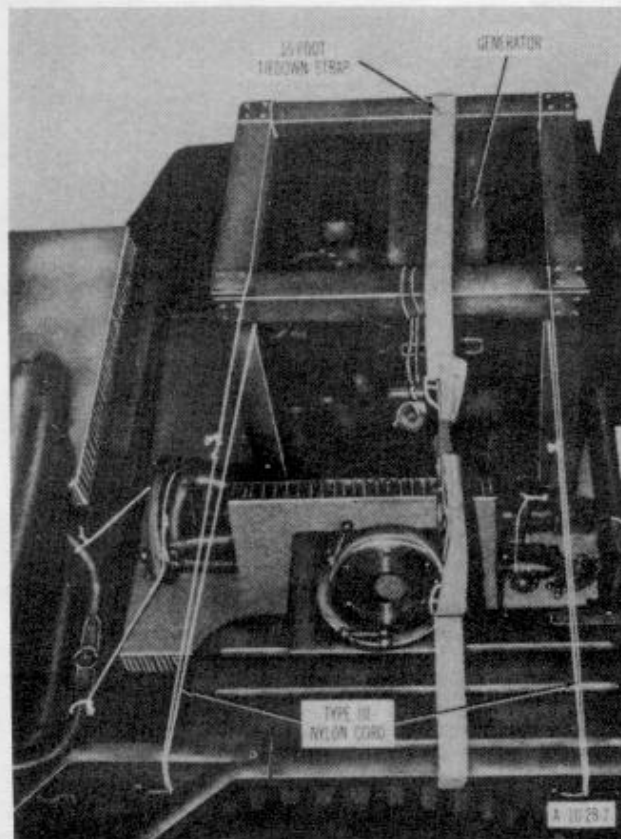

Figure 6-10. Generator stowed.
e. Stowing Generator. Center generator in rear of vehicle over the four layers of felt, and secure it with a 15-foot tiedown strap around vehicle as shown in figure 6-10. Using type III nylon cord, make ties from corners of generator of footman loops on truck (fig 6-10).